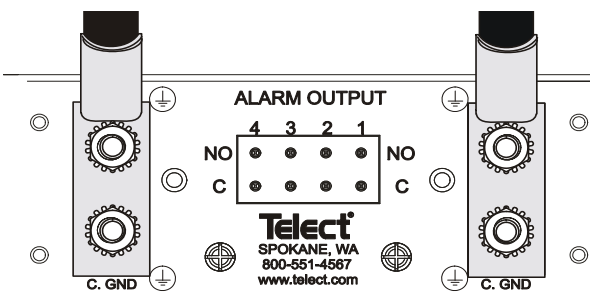

Figure 12 - Alarm Relay Terminals on Rear of Panel
- a. Set all **ALARM CUTOFF** switches on the front to the **SERVICE** (down) position. Check all pairs of alarm terminals. (Refer to Figure 12.)